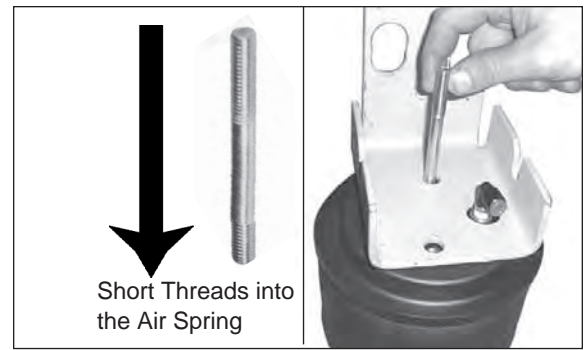

Figure 3
3. Align the right hand upper bracket (B2) with the mounting holes in the air spring and install the 3/8" stud (M) in the outboard tapped hole with the short threaded portion into the air spring (Figure 3). **Note: Finger tight only. Do not over tighten.**
4. LOOSELY install the 3/8" lock washer (O) and 3/8 x 7/8" hex head cap screws (N). Leave loose to allow installation of the upper bracket.